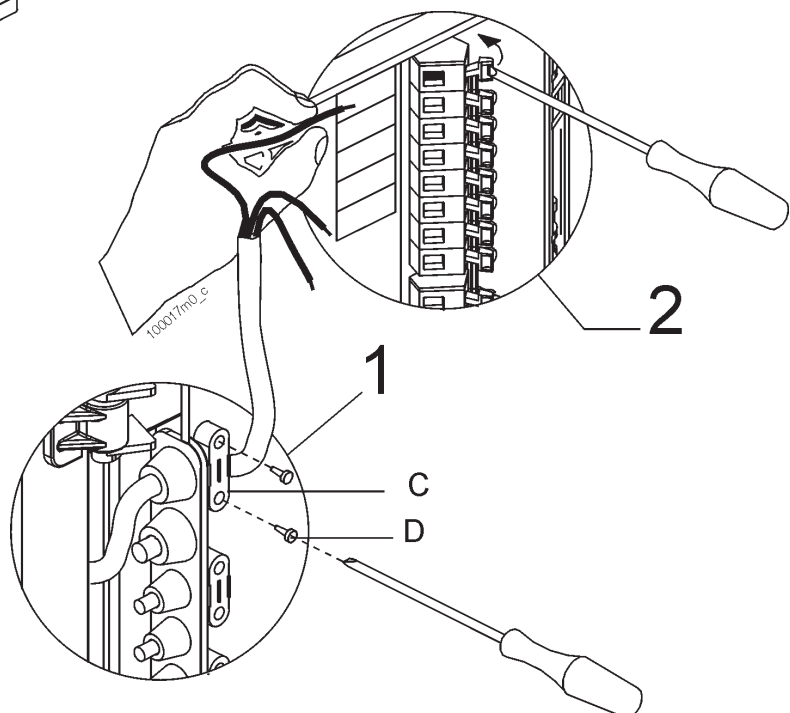

Figure 8 - Connecting the power supply
- connect the cable, using a screwdriver to press down on the terminal block levers as shown in figure 8.
- choose a free cable clamp "C" (see figure 8) that is not used by other conductors;
- unscrew "D" screws (see fig. 8) of the cable clamp "C" and pass the cable inside;
- To connect the cables, use a screwdriver to push down on the levers of the terminal block as shown in figure 8.